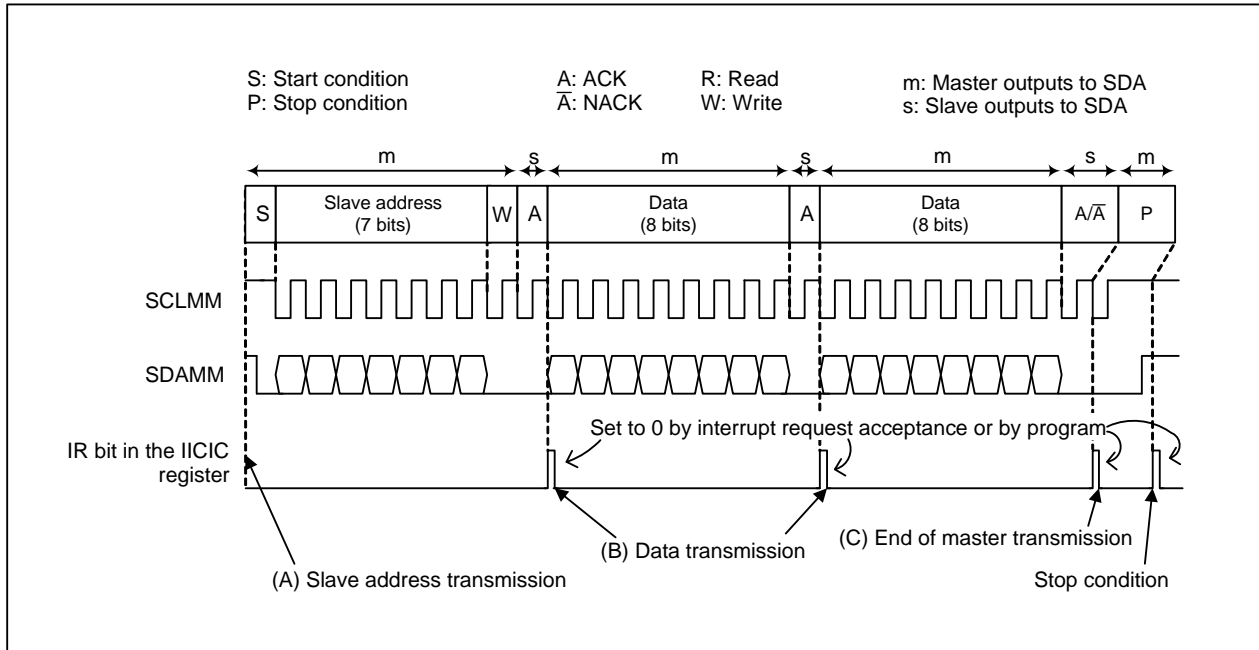

Figure 25.17 Example of Master Transmission
Master transmission is described in this section. The initial settings described in 25.3.10.1 “Initial Settings” are assumed to be completed. Figure 21.17 shows the operation of master transmission. The following programs (A) to (C) are executed at the (A) to (C) in Figure 25.17, respectively.